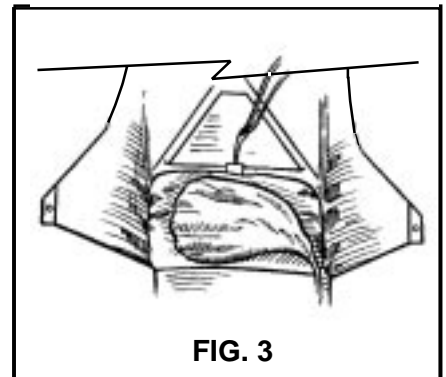

FIG. 3
2. Fold the pilot chute into thirds (FIG. 3).
3. Loosely fold the pilot chute and lay it across the bag as shown in (**FIG. 3**).